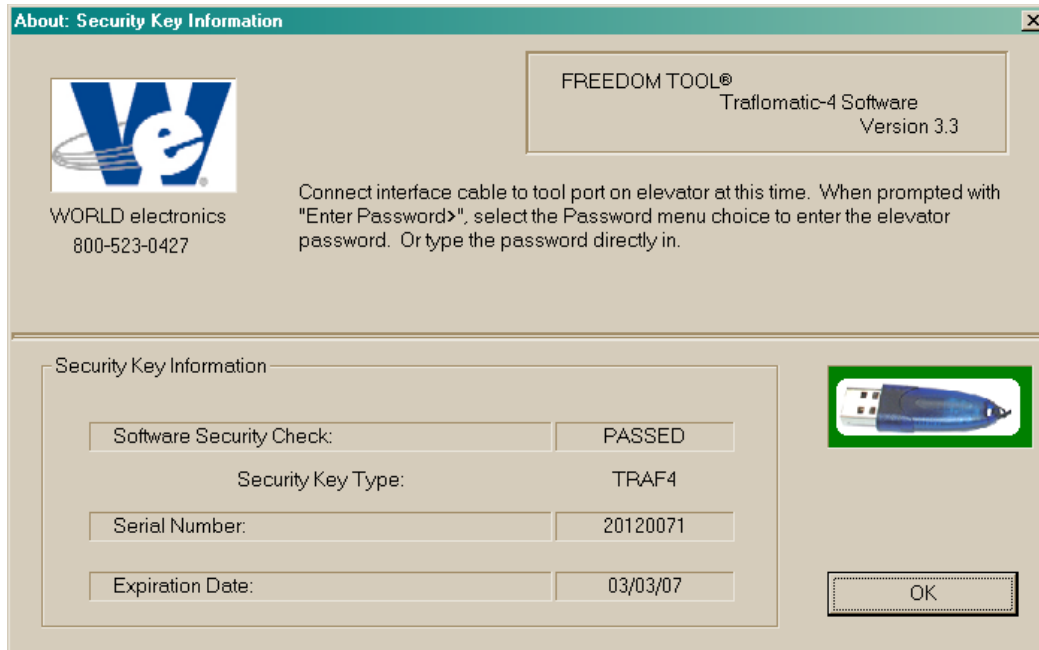

Figure 31
3. The **About: Security Key Information** window will be displayed as in Figure 31, if the correct security key has been determined to be installed. A successful access to the security key is indicated by a green box surrounding the picture of the security key device along with the designation **PASSED** located in the field **Software Security** :. Other information contained within this window is: contact information for contacting WORLD electronics technical support, revision information on the current software, and a final instruction to connect the communication cable to the elevator and logon to the elevator. In order to continue using the Traflomatic software module position the cursor over the **OK** and single click with the pointing device button. When **OK** is selected, the main window of the Traflomatic Software Module will open.